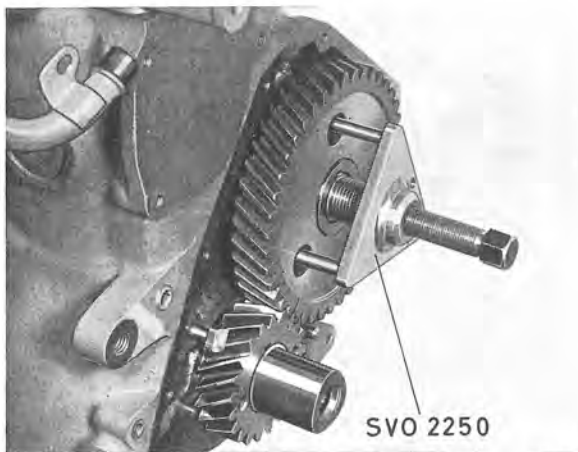

Fig. 2-40. Removing camshaft gear
4. Remove the camshaft nut and pull off the camshaft gear with puller 2250, see Fig. 2-40.